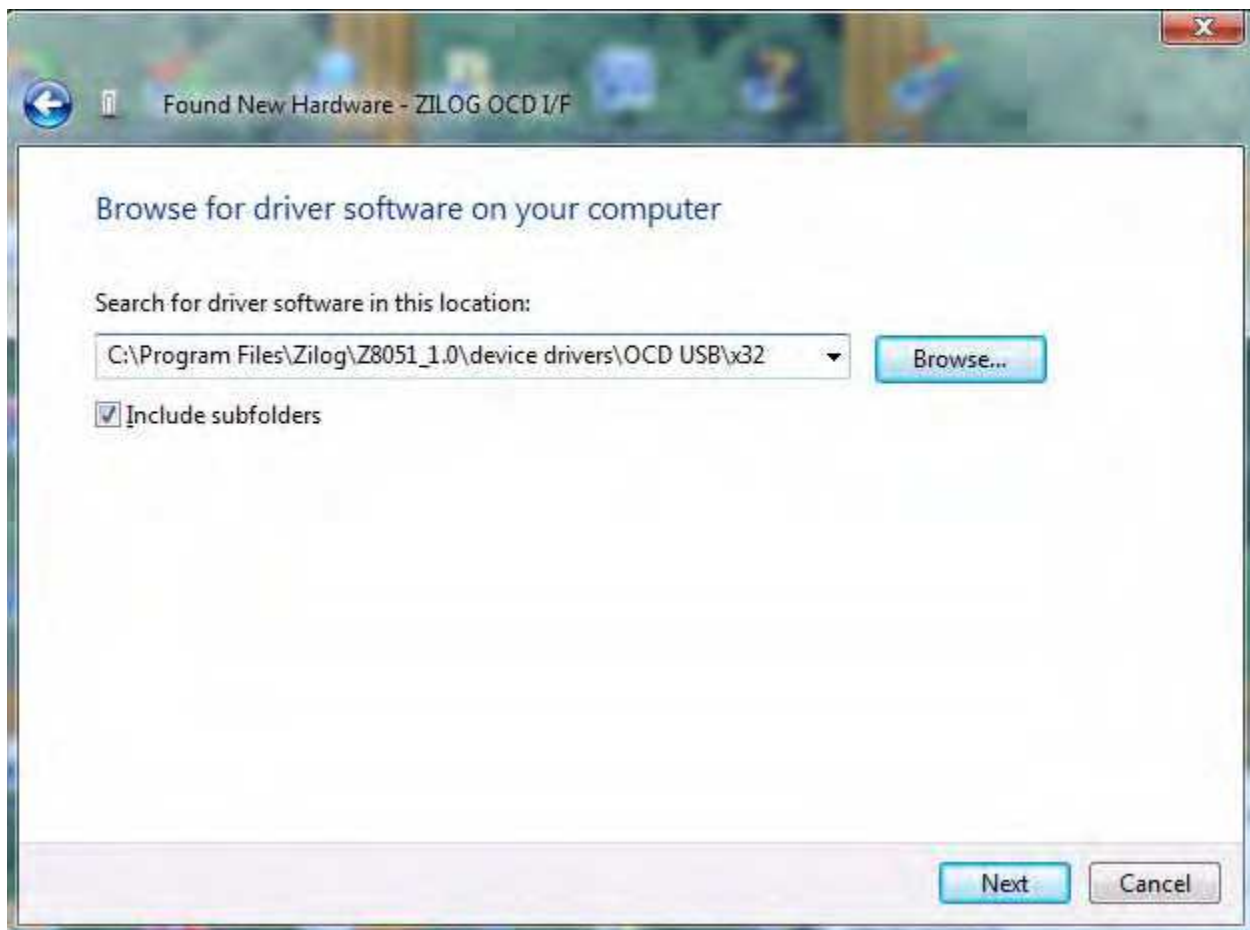

Figure 8. Browse For Driver Dialog, Windows Vista
3. Select **Browse my computer for driver software (advanced)** to display the dialog shown in Figure 8, which prompts you to key in or browse for the location of the .inf file. Depending on the type of computer you use (32-bit or 64-bit), use the **Browse** button to navigate to one of the following paths, then click the **Next** button.